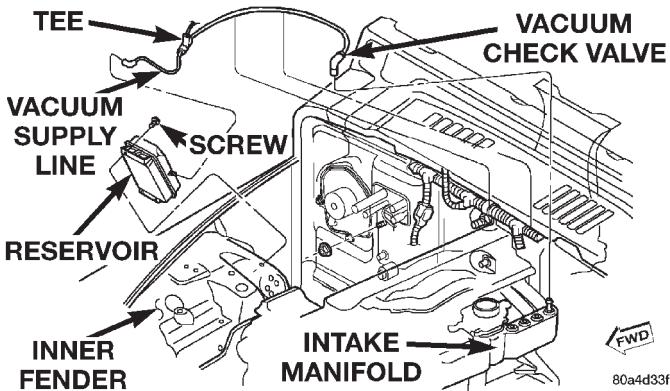

Fig. 7 Vacuum Reservoir Removal/Installation
The vacuum reservoir is located under the vehicle battery tray (Fig. 7).
- (1) Remove battery and battery tray. Refer to Group 8A, Battery for procedure.
- (2) Disconnect vacuum supply line at reservoir (Fig. 7).
- (3) Remove screw securing reservoir to inner fender.
- (4) Remove reservoir from vehicle.